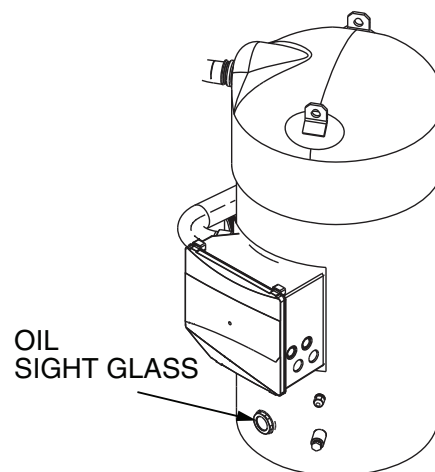

Fig. 29 — Sight Glass Location
5. Oil should be visible in the compressor sight glass(es). See Fig. 29. For unit sizes 010-090, an acceptable oil level is from $\frac{1}{8}$ to $\frac{3}{8}$ of sight glass. For unit sizes 100-150, an acceptable oil level is from $\frac{3}{4}$ to $\frac{7}{8}$ of sight glass. No oil should be removed unless the crankcase heater, if equipped, has been energized for at least 24 hours. Adjust the oil level as required. See Oil Charge section on page 50 for Carrier approved oils.